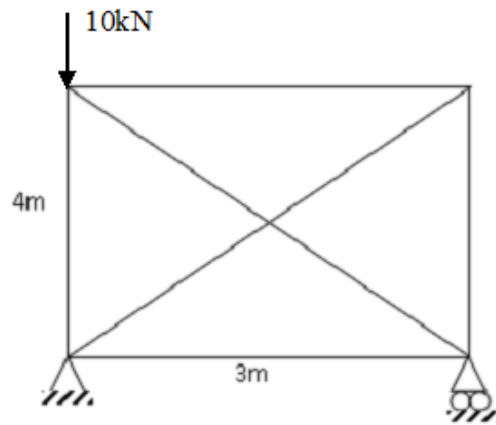

Figure 2:
2. a) How would you explain the concept of equivalent joint load and its significance in structural analysis. (3)
- b) Analyse the Truss shown in Figure 2 using Direct stiffness method. (7)
3. a) A cantilever of length L and uniform flexural rigidity EI supports a uniformly distributed load of intensity w kN/m over its entire span length. Evaluate the maximum slope and deflection at the free end using Newmark's method. (5)